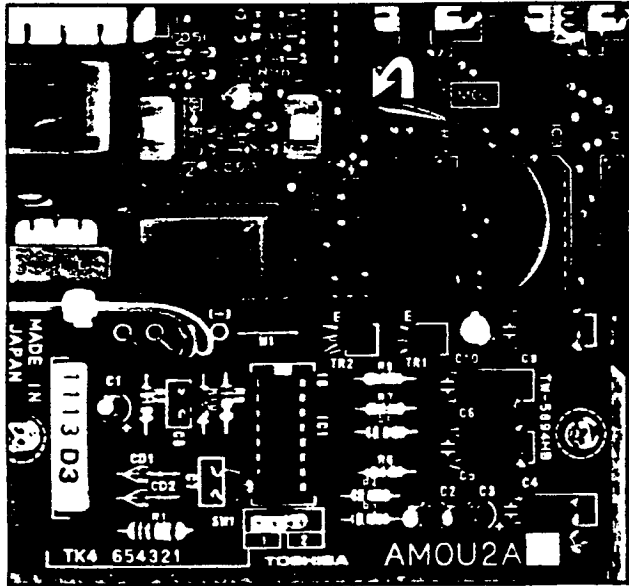

FIGURE 8
07.12 Connect the AMOU cable to P8 on the MMAU PCB per Figure 8.